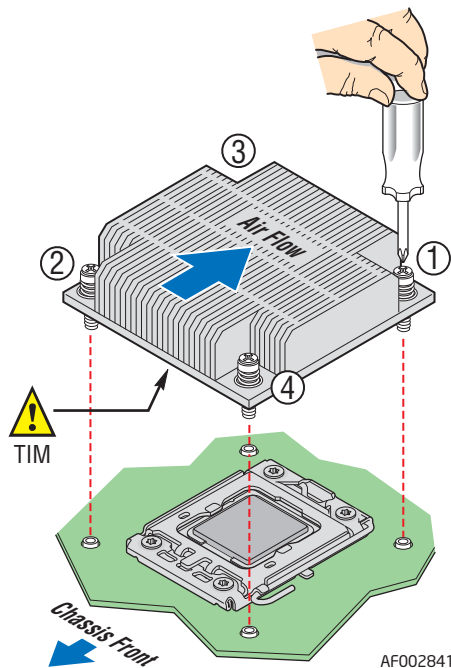

Figure 18. Installing the Heatsink (Passive Heatsink Shown)
2. Orient the heatsink over the processor as shown. You must position the heatsink fins as shown (Figure 18) to provide correct airflow through the system.
4. Loosely screw in the captive screws on the heatsink corners in a diagonal manner according to the numbers shown (Figure 18) as follows: